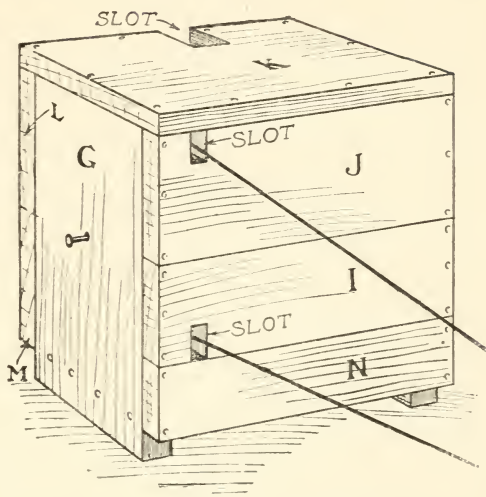

FIG. 70. — A Small Water-Motor that can be Operated in a Wash-Basin.
**Another Water-Motor.** The little water-motor in Fig. 70 will furnish sufficient power to operate simple mechanical toys.
**The Water-Motor Case.** Figure 70 shows how the water-motor case is constructed by fastening boards *N*, *I*, *J*, *K*, *L*, and *M* to the wheel supports *G*. There must be a slot through *I* and another through *J*, for the string